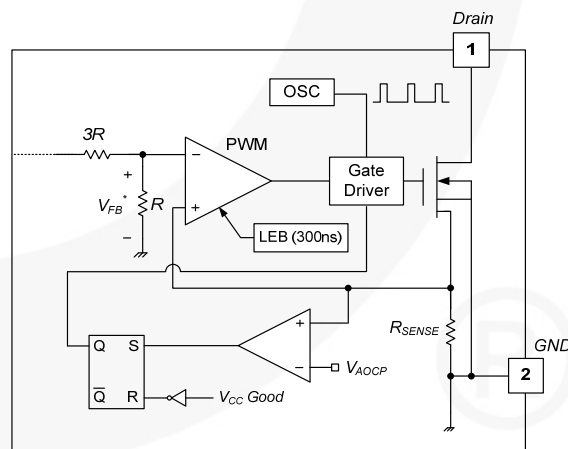

Figure 21. Abnormal Over-Current Protection
4.2 Abnormal Over-Current Protection (AOCP): When the secondary rectifier diodes or the transformer pins are shorted, a steep current with extremely high di/dt can flow through the SenseFET during the minimum turn-on time. Even though the FSL126MRT has overload protection, it is not enough to protect in that abnormal case; due to the severe current stress imposed on the SenseFET until OLP is triggered. The internal AOCP circuit is shown in Figure 21. When the gate turn-on signal is applied to the power SenseFET, the AOCP block is enabled and monitors the current through the sensing resistor. The voltage across the resistor is compared with a preset AOCP level. If the sensing resistor voltage is greater than the AOCP level, the set signal is applied to the S-R latch, resulting in the shutdown of the SMPS.